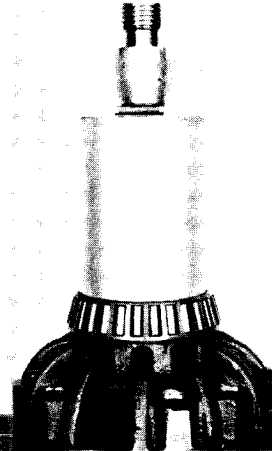
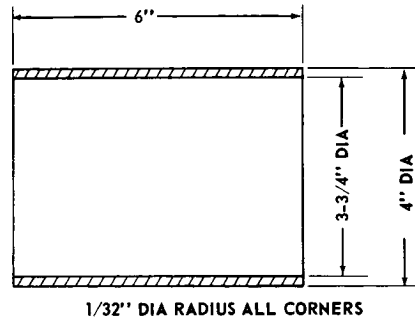

FIG. 99
FIG. 100
- Press differential bearing cones on case halves (Fig. 99). Bearing driver dimensions are given in Fig. 100.